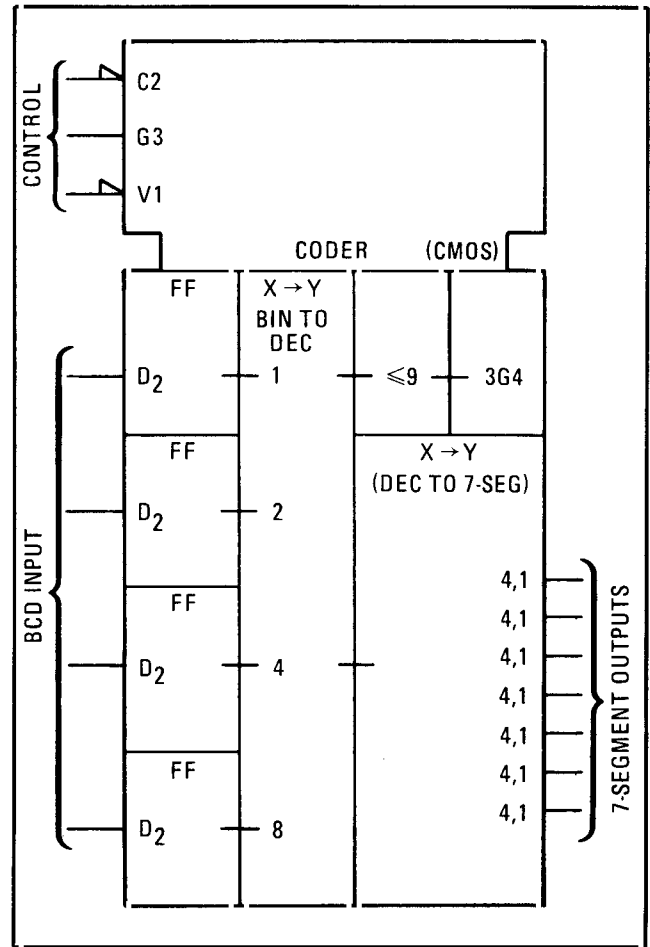

Figure 8-27. BCD-to-Seven-Segment Latch/Decoder/Driver
**BCD-to-Seven-Segment Latch/Decoder/Divider.** Refer to Figure 8-27. This device latches and decodes BCD data to drive the individual segments of a 7-segment common cathode display. The BCD code is latched into the four flip-flops when C2 goes low. The BCD data is converted to a decimal code and then to the seven-segment code.